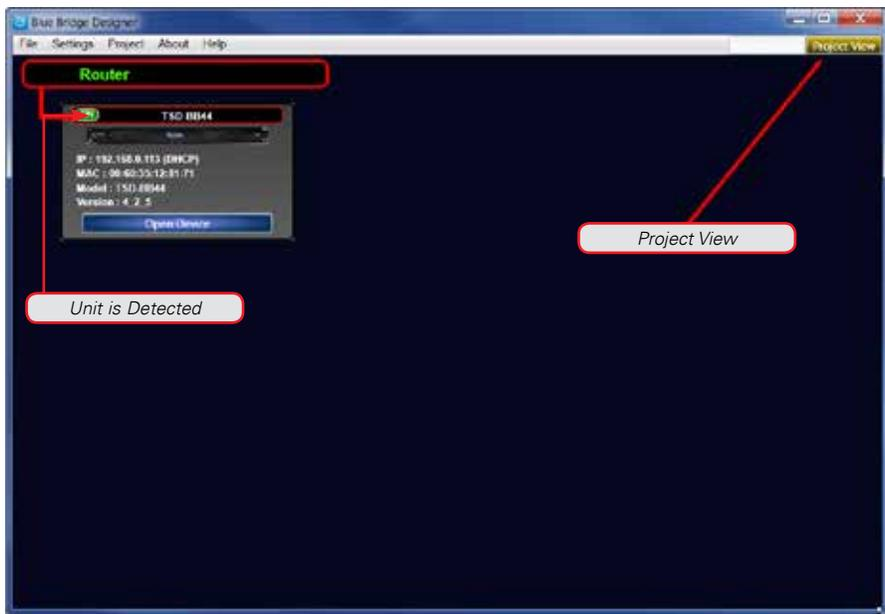
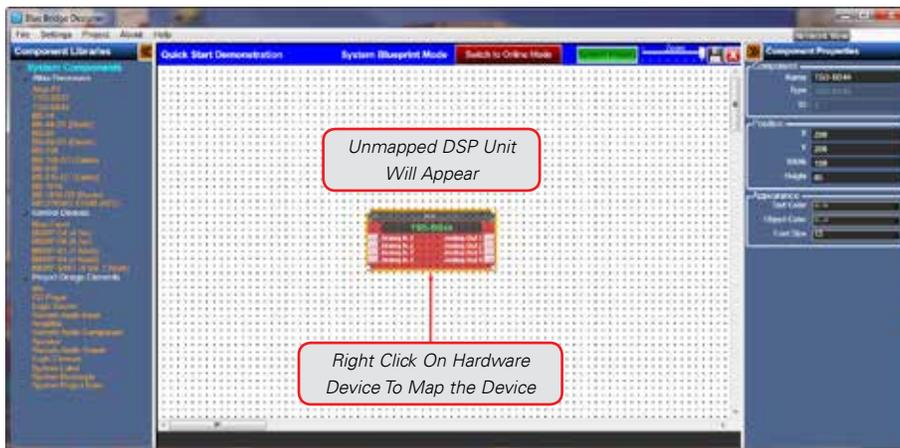

Figure 10
Figure 11
- Once the Atlas BlueBridge hardware device is detected on the network and the status indicator is Green, return to the Project View so the device can be "Mapped" to the design file as shown in Figure 10.
- Click on the "Project View" button as shown in Figure 10. This will take you back to the Blue Print Mode window view. The detected unit will now appear in the main window as shown in Figure 11.